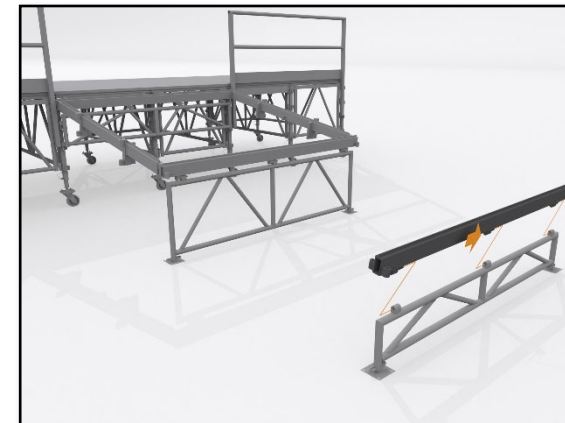

Fig. 44 – Primary Beam Type Two
9.5.15 Locate 1 off Primary Beam Type Two. Insert the connections into the top hole of the Support Frame Type Two. *Fig. 44 – Primary Beam Type Two*